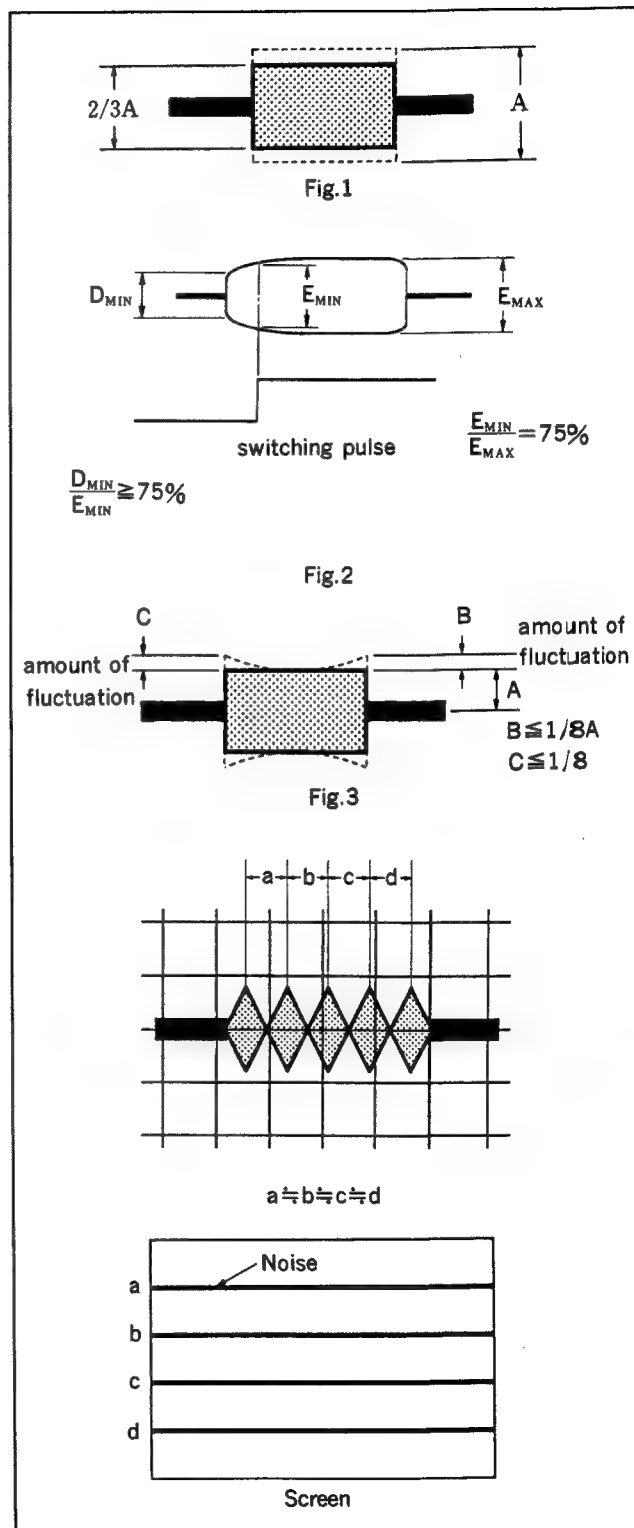

Fig. 6-4-1 Tracking check
Turn RV701 on SST-2 board until RF wave shape amplitude is reduced to 2/3. (See Fig. 6-4-1 (1).)
Turn RV703 on SST-2 board until RF wave shape amplitude is reduced to 2/3. (See Fig. 6-4-1 (1).)
3. 1) Confirm that the minimum amplitude (E_{min}) of RF wave shape is more than 75% of the maximum amplitude (E_{max}). (See Fig. 6-4-1(2).)
4. RF envelope fluctuation at both entrance and exit sides is less than the specified value, as shown in Fig. 6-4-1 (3).
5. Put the unit into reverse mode. Check that noise pitch has equal interval. (Fig. 6-4-1 (3).) If it does not have equal interval, continue adjustment as follows.